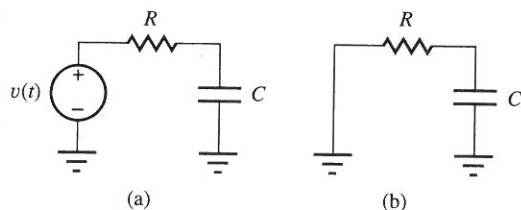

Figure P6.20
- *6.20. (a) Derive an expression for the rise time of the circuit in Fig. P6.20(a) in terms of the circuit time constant. Assume that $v(t)$ is a 1-V step function, changing state at $t = 0$. (b) Derive a similar expression for the fall time of the capacitor voltage in Fig. P6.20(b) if the capacitor has an initial voltage of 1 V at $t = 0$.